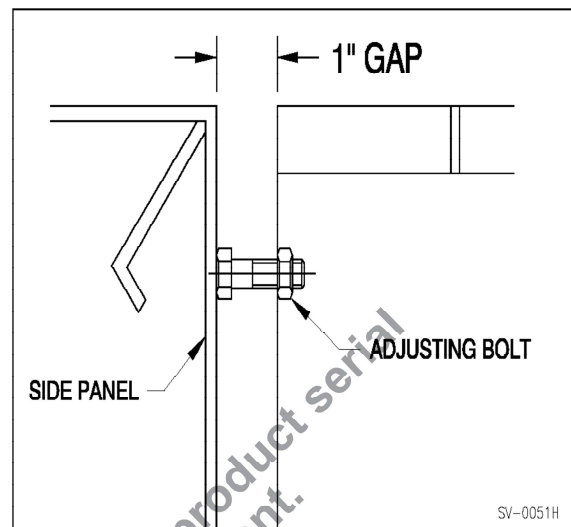

Figure 43 : One Inch (1'') Gap
6. ___ Ensure there is a one inch (1”) gap between the deck and side pan curb angle. Confirm this on both sides of the dock leveler. Once the gaps are confirmed as correct, ensure the adjusting bolts are in contact with the side panels. (See “Figure 43: One inch (1”) Gap” on page 36). Use the adjusting bolts to increase the gap to 1” if required.
14. __ Once the concrete is cured, remove the side adjusting bolts. (See “Figure 43: One Inch (1”) Gap” on page 36).